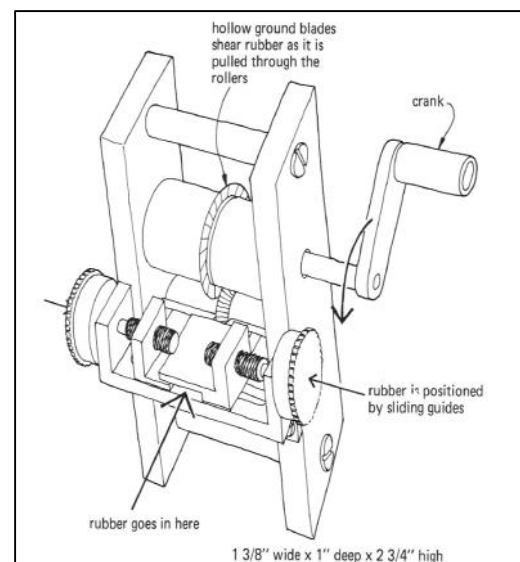

Fig 2. Czechowski rubber stripper with rotating cutters.
Of course, adjacent widths may or may not be from the same batch of rubber. These are undoubtedly cut using a rotary type cutter (Fig 2) of the type originally produced by Ryszard Czechowski in Poland.
*Figs 2 and 3 are from Ron Williams' excellent and comprehensive book 'Building and Flying Indoor Model Airplanes'.*